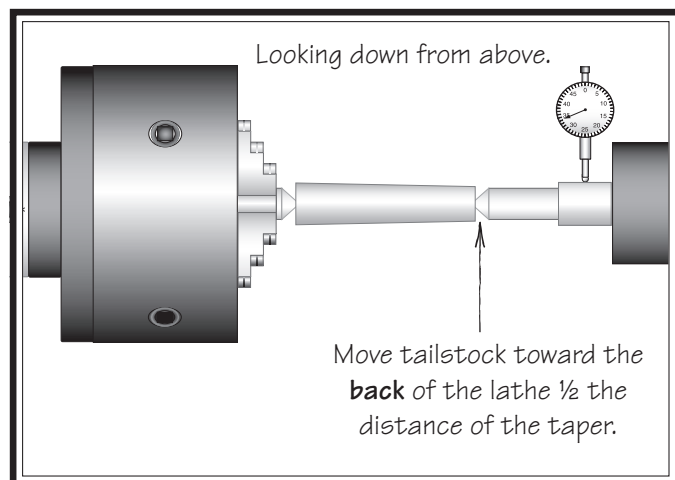

Figure 49. Adjust tailstock away from the operator.
- If the test stock is *thinner* at the tailstock end, move the tailstock toward the *back* of the lathe $\frac{1}{2}$ the distance of the amount of taper (see **Figure 49**).